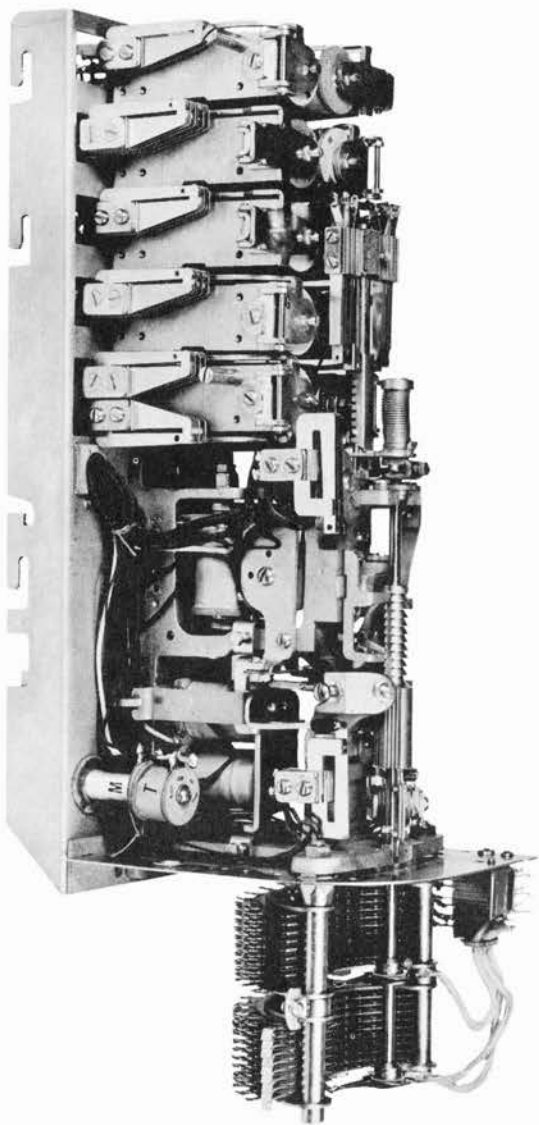

Figure 23. Typical connector.
- a. Connect test lamp H-16339-1 or 5 to (+) battery. Plug the hand test telephone into test jacks 1 and 2 of the connector under test (figure 23). The connector is seized. Listen for dial tone, and dial the connector vertical and rotary (preferably to a dead level). During rotary stepping, touch the control wiper terminal with the test lamp which is connected to (+) battery (this will operate the busy test relay). Listen for busy tone. To release the connector remove the hand test telephone from test jacks 1 and 2 and check the connector for proper release.